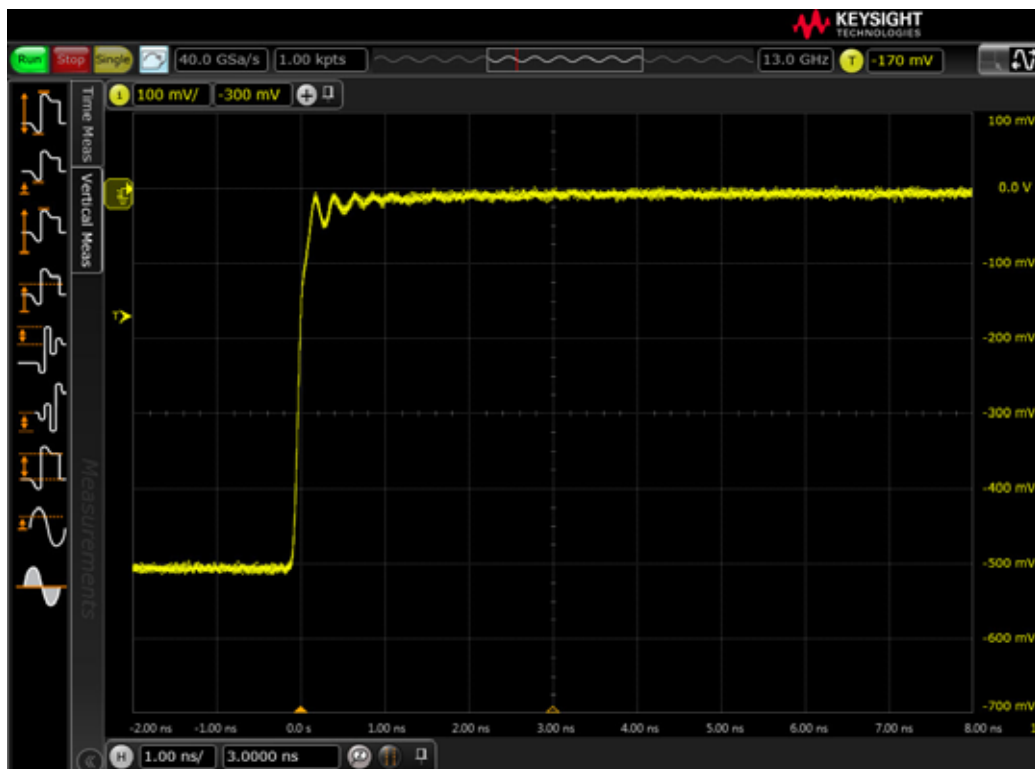

Figure 100 Example of a Good Connection Waveform
- 4 Set the horizontal position to approximately 3ns. You should see a waveform similar to that in Figure 100 below.